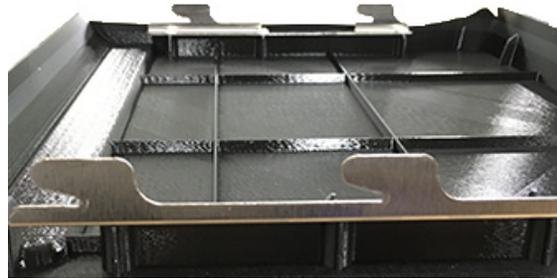
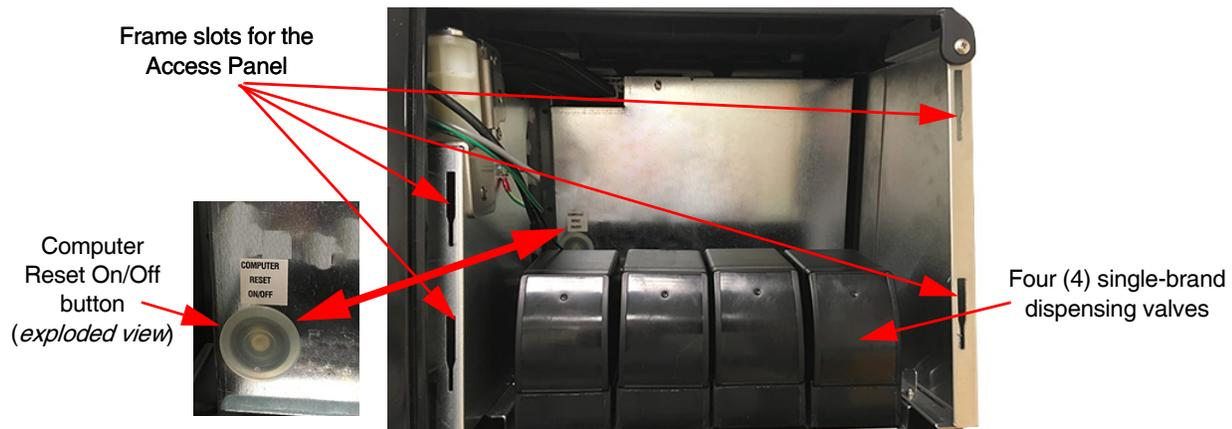

Figure 3
Figure 4
1. Locate the front access panel. See Figure 3.
Result: The frame slots for the access panel and four (4) single-brand valves are revealed behind the front access panel. See Figure 4.
Start by positioning the front access panel so the two (2) hook brackets on either side of the panel line-up with the slots in the frame. See Figure 3 and Figure 4. Then, insert the two (2) hook brackets on either side of the panel into the slots and push the panel down into place.